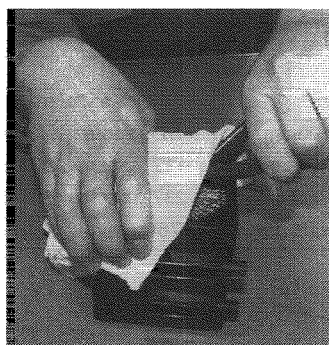

Fig. 4
4. Hold the cloth in place to prevent flying off from the pressure, and cut the bead (Fig. 4).